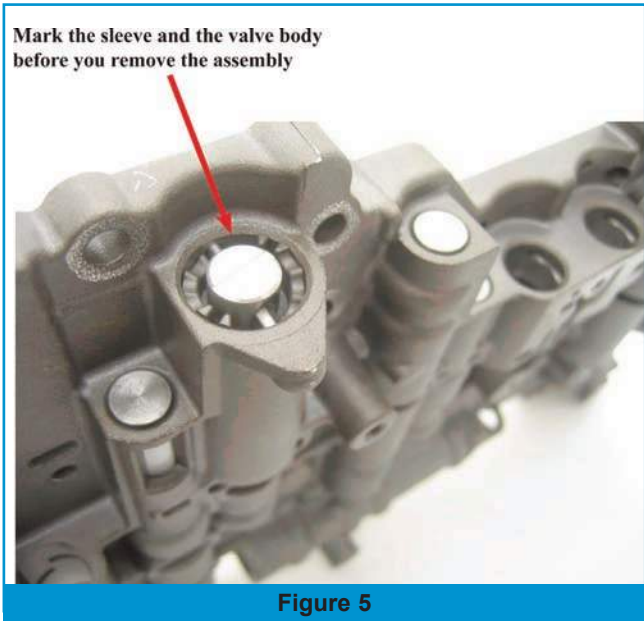

Figure 5
1. Make sure you record the accumulator control pressure setting prior to removing the accumulator control valve (figure 5).